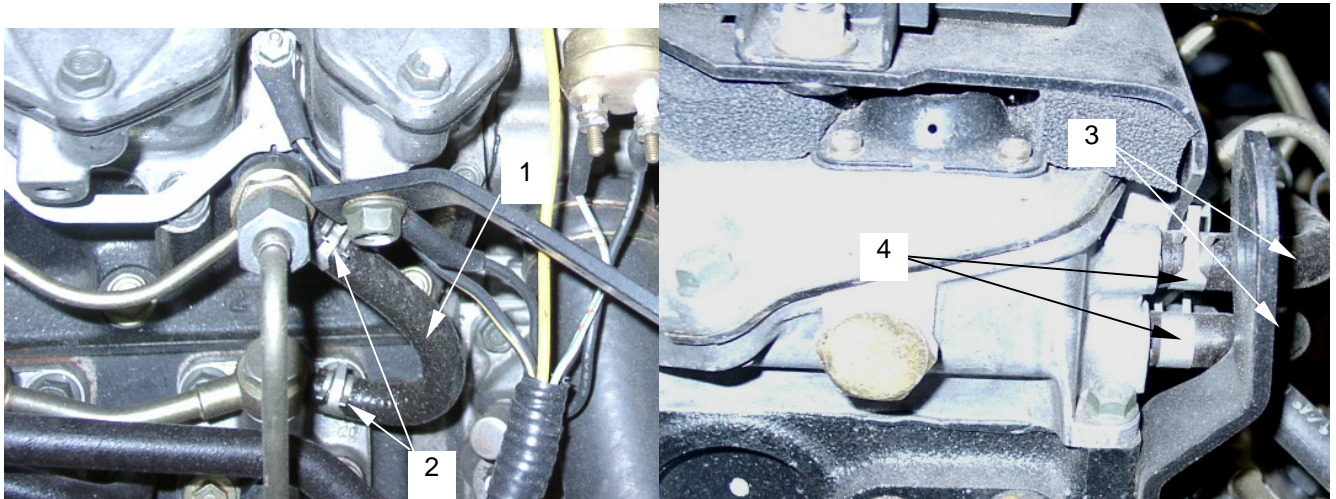

Figure 6. Fuel Hoses
- h. Loosen and remove fuel leak hose (**figure 6, item 1**) hose clamps (**figure 6, item 2**).
- i. Remove fuel leak hose (**figure 6, item 1**).
- j. After placing a rag under the fittings, loosen and remove fuel line (**figure 6, item 3**) hose clamps (**figure 6, item 4**).
- k. Remove fuel lines (**figure 6, item 3**).